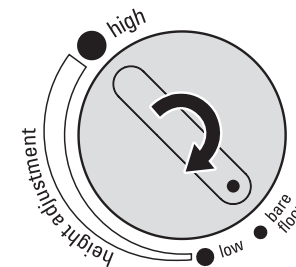

Fig. 11
- Rotate the height adjustment knob to the correct carpet height. (Fig. 11)